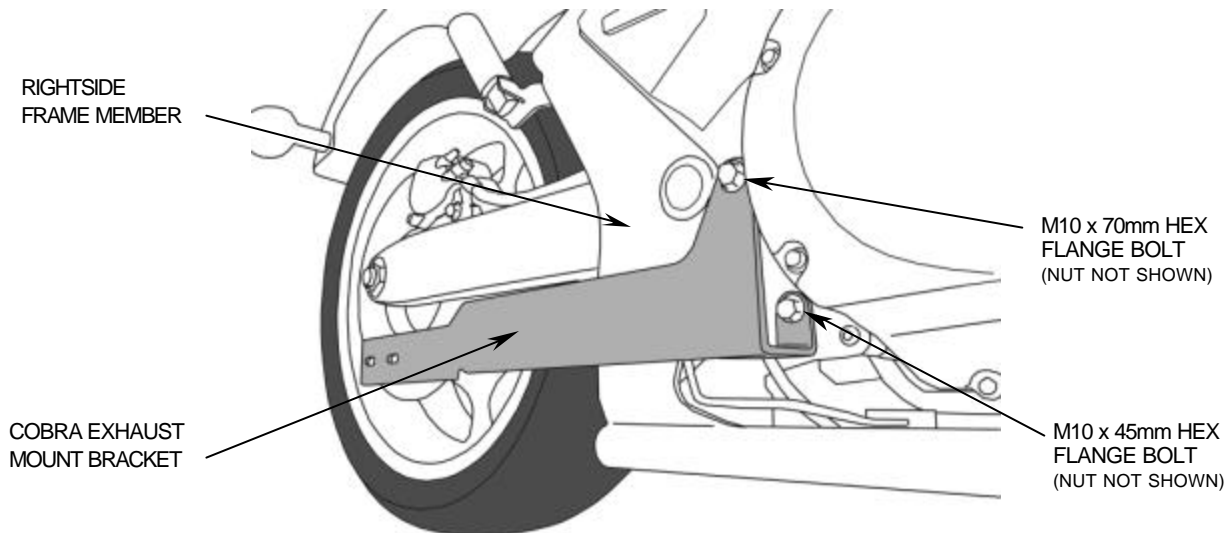

FIGURE 1
1. Remove your stock exhaust system and stock exhaust mount. Save the (4) acorn nuts that attach the headpipes to the cylinders for later use during installation.
2. Install exhaust mounting bracket onto outside of frame, where stock mounting bolts were removed, by inserting the supplied M10 x 70 mm bolt into the top mounting hole and the shorter M10 x 45 mm into the lower, and thru the frame, see Figure 1. Start threading the supplied M10 Nylock nut onto lower and upper bolts but **DO NOT FULLY TIGHTEN**.